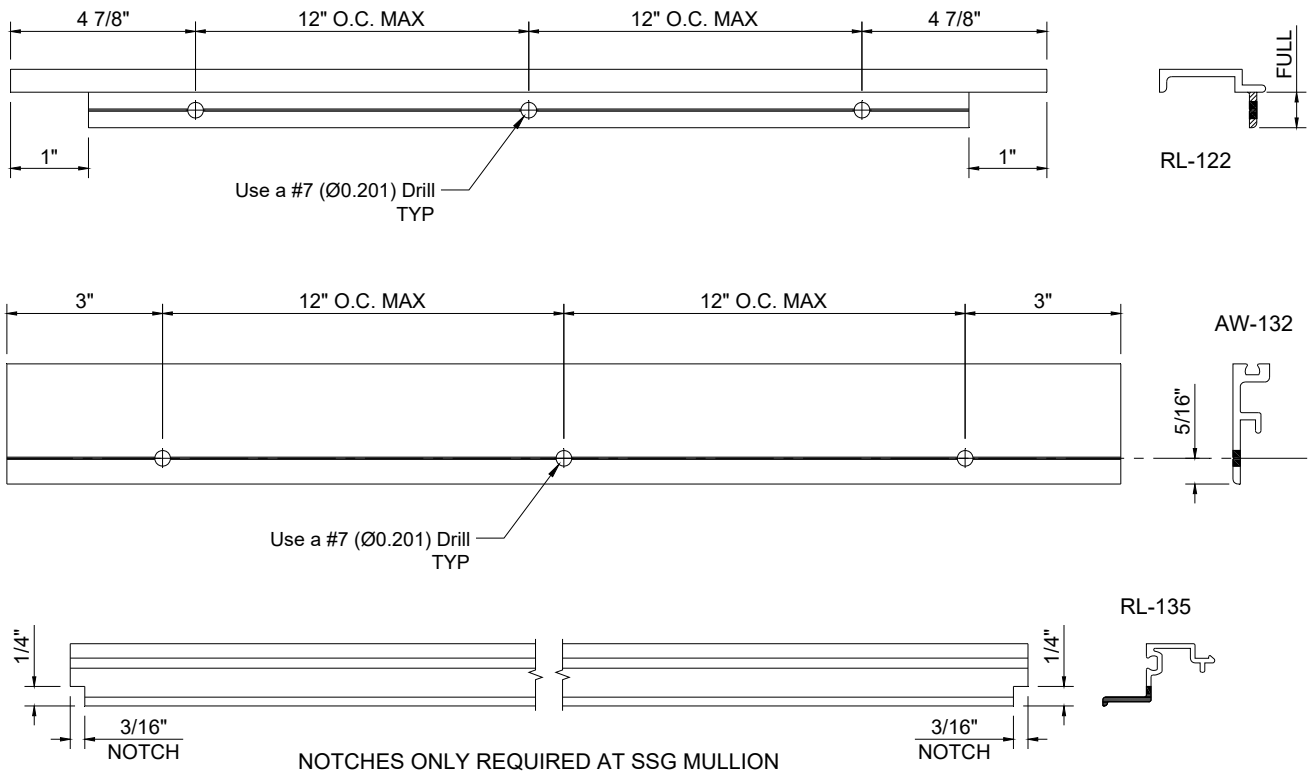

Figure 19: Horizontal Pocket Filler Fabrication
- 7.4 Fabricate horizontal pocket fillers per *Figure 19* as required.